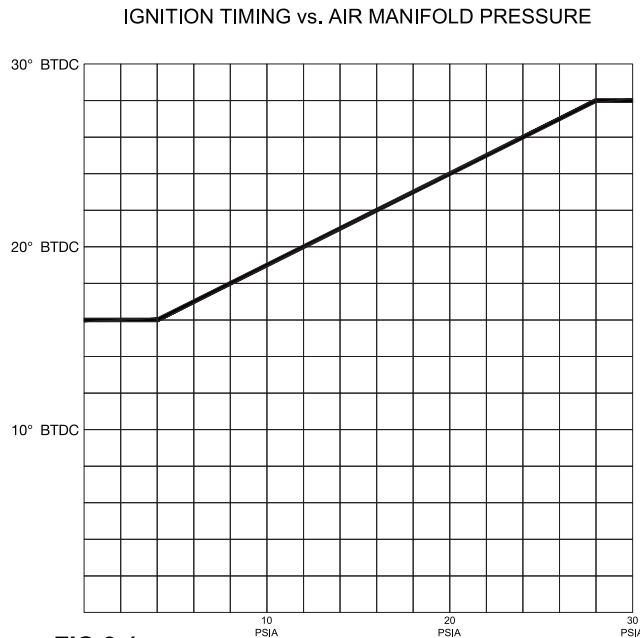
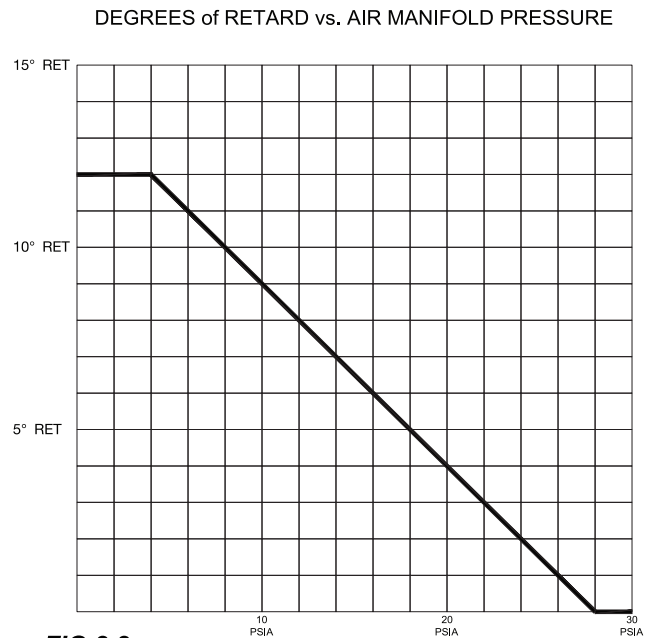

FIG 2.1
FIG 2.2
4.2 *Ignition Timing vs. Air Manifold Pressure* – For this example it is assumed that the appropriate Ignition Timing vs. Air Manifold Pressure function has been defined as show in Figure 2.1. The previous example established that the most advanced ignition timing value desired is 28° BTDC. Again, it is required to re-format the desired ignition timing in terms of °RET. As in the previous example, this process generates the graph shown in Figure 2.2.
For the values of air manifold pressure given in Figure 2.2, the following table shows the equivalent points converted to work in the mA scale of the CPU-95.